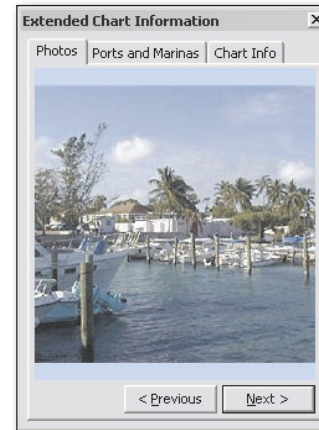

Figure 5.1 - Extended Chart Information Window
4. The Extended Chart Information window will open (**Figure 5.1**). Use this tabbed window to view all available data. Click on each tab to show photos, Port and Marina information, Chart Info and so forth.